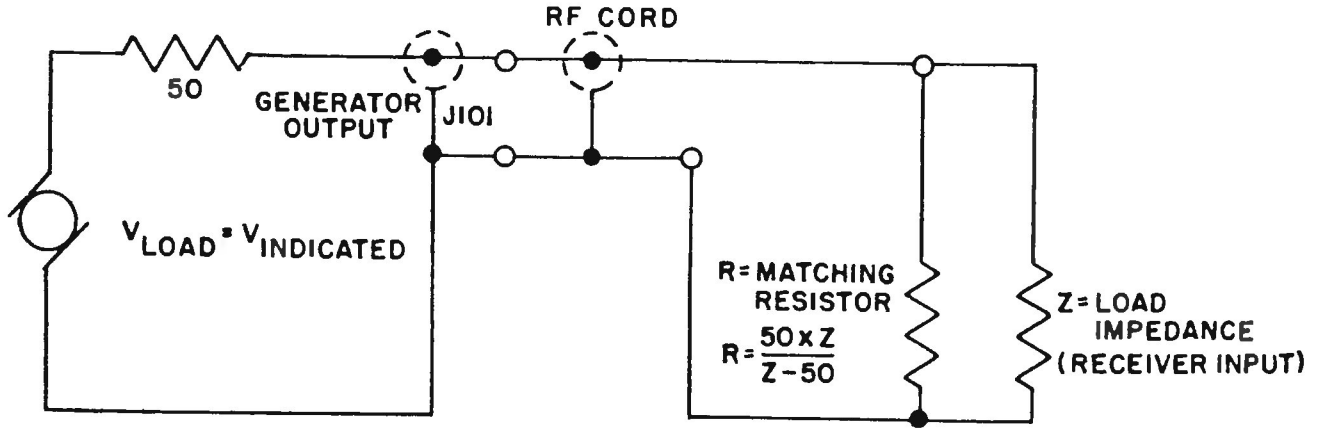

Figure 3-6. Equivalent Circuit of RF Output With Shunt Resistor Added.
d. EQUIPMENT WITH INPUT IMPEDANCE SOMEWHAT GREATER THAN 50 OHMS. - With receiver input impedance above 50 ohms, but considerably less than 500 ohms, a non-inductive composition resistor should be added in parallel to the receiver input (shunt) as shown in figure 3-6. The equivalent impedance of the shunt matching resistor and the load should equal the generator impedance (50 ohms). The receiver input voltage will then be equal to the meter indication. For example, if the receiver input impedance (Z) is 120 ohms, select the correct shunt matching resistor (R) as follows:
c. RECEIVER IMPEDANCE SOMEWHAT GREATER THAN 50 OHMS. – Where the receiver input is above 50 ohms, but considerably less than 500 ohms, and it is desired to show a 10:1 attenuation, connect the attenuator between signal generator and receiver, with a non-inductive composition resistor added in parallel to the receiver (shunt) as shown in input figure 3-6. The equivalent impedance of the shunt matching resistor and the load should equal 50 ohms. See paragraph 3-9d for method of determining shunt resistor value. Now, simply divide the microvolt reading of the RF OUTPUT dial by TEN.
d. RECEIVER IMPEDANCE BETWEEN 50 OHMS AND 500 OHMS. – Connect the attenuator to the signal generator as described in (c) above. Instead of the impedance matching network between the attenuator and receiver input, use appropriate shunt matching resistor as shown in figure 3-6. Now simply divide the microvolt reading of the RF OUTPUT dial by TWO. Unlike the 10:1 attenuator, the 2:1 attenuator is not a constant impedance device, and must therefore always be terminated in 50 ohms in order to reflect a 50 ohm impedance.